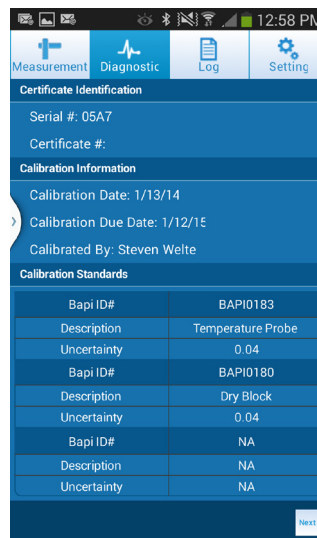
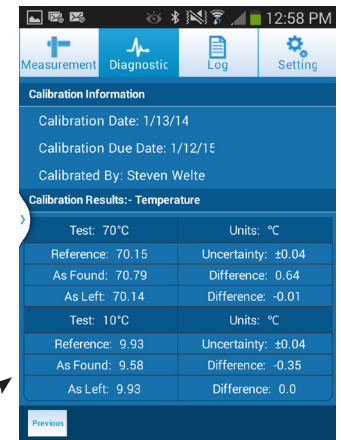

Fig. 9: Certificate & Calibration Info Screen
Fig. 10: Temperature Calibration Screen
- **Calibration Details:** Click the “Show” button to open the “Certificate and Calibration Information Screen” (Fig 9) which lists the details of the calibration certificate. Clicking “Next” on this screen opens the “Temperature Calibration Screen” (Fig 10) which lists the results of the temperature calibration.